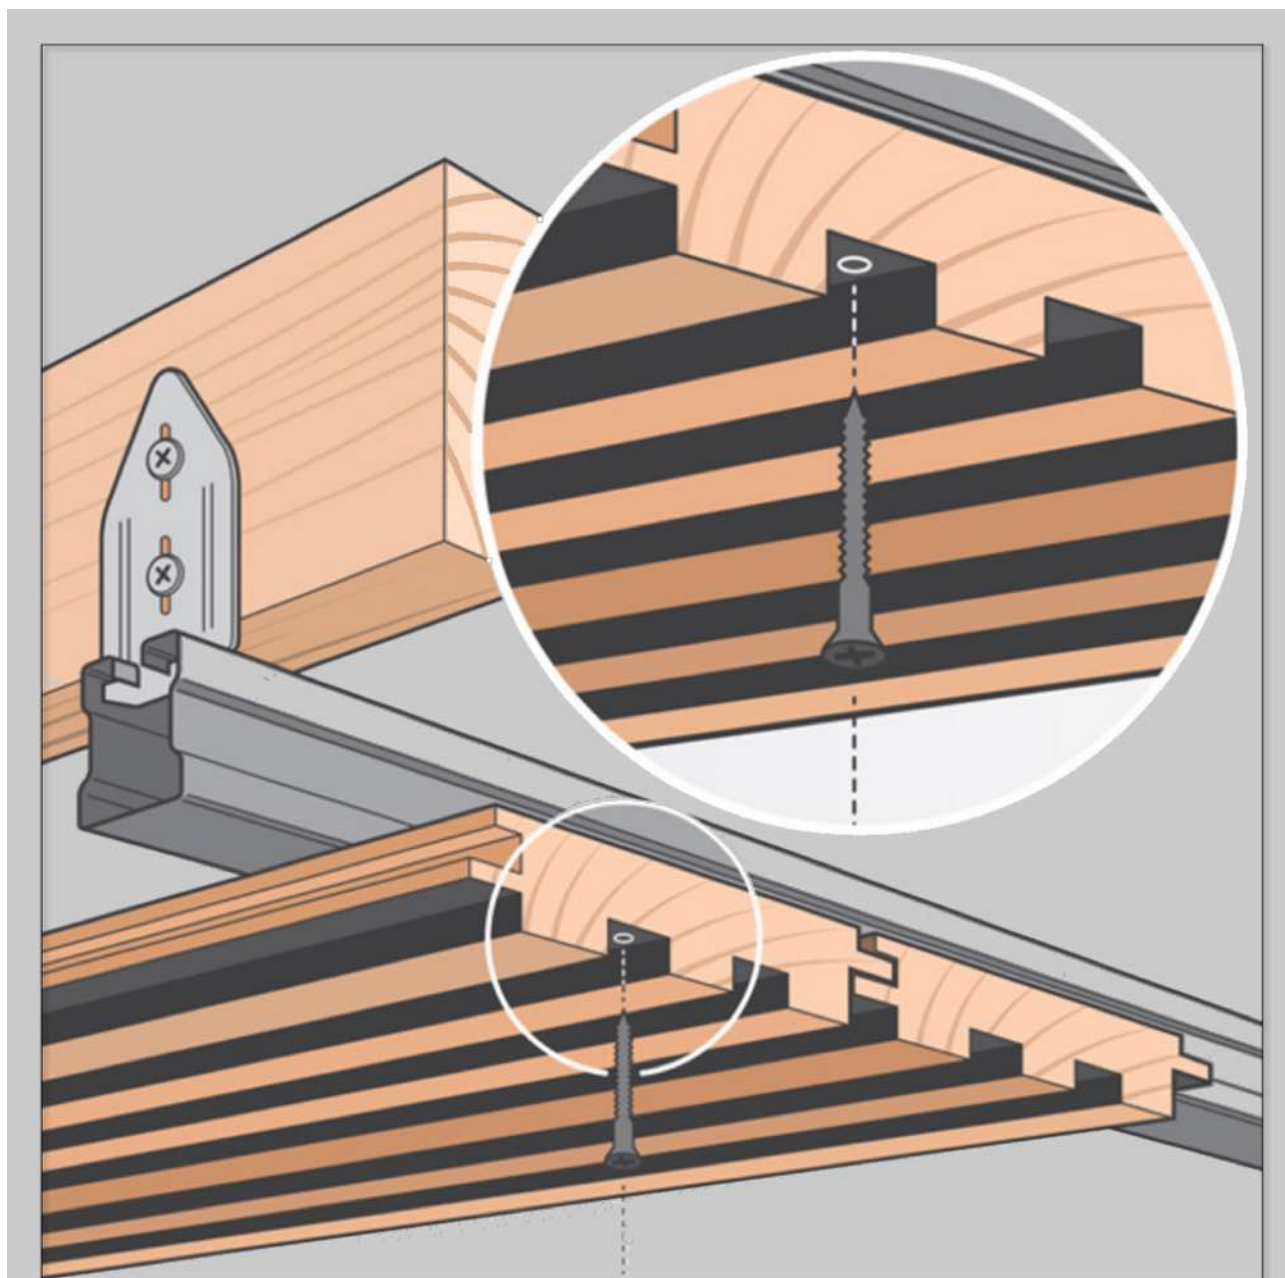

Fig 2. Runway Panel face fixed to metal track system
- **Runway panelling (with channels)**, can be screwed through the channel to the metal track. One screw per board, per track is sufficient (See Figure 2). This works particularly well with the Runway Black/Clear or White/Clear product as the screw heads can be painted the same colour as the channels.